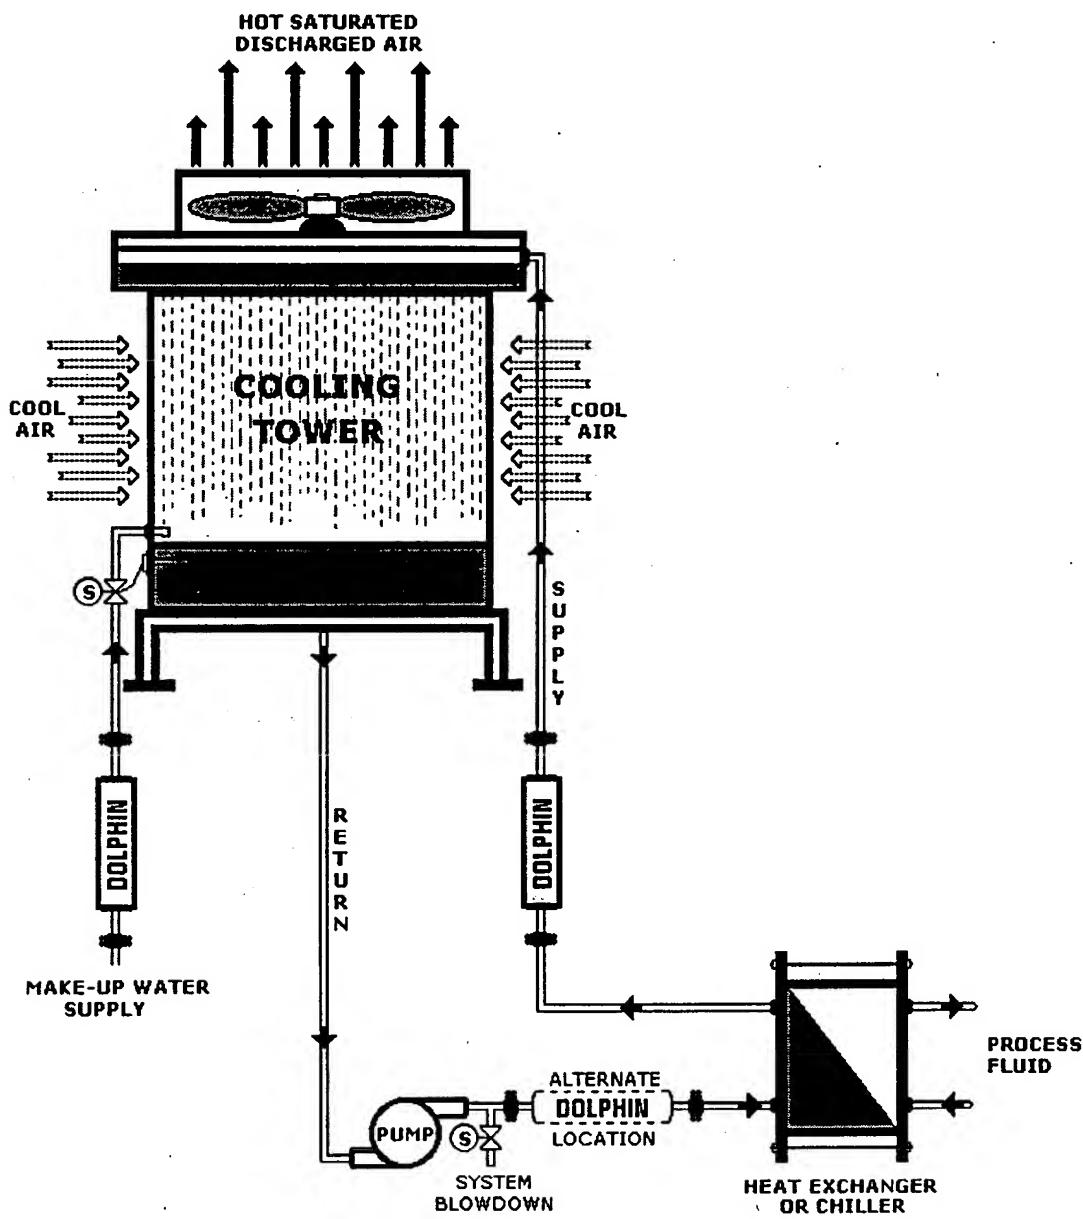

Figure 5. Typical Evaporative Cooling Tower Installation
2. The recirculating system should be installed after or downstream of all pumps and prior to the cooling tower. (See Figure 5.) An equally acceptable alternative is to install the recirculating system prior to the heat exchanger but after all pumps.